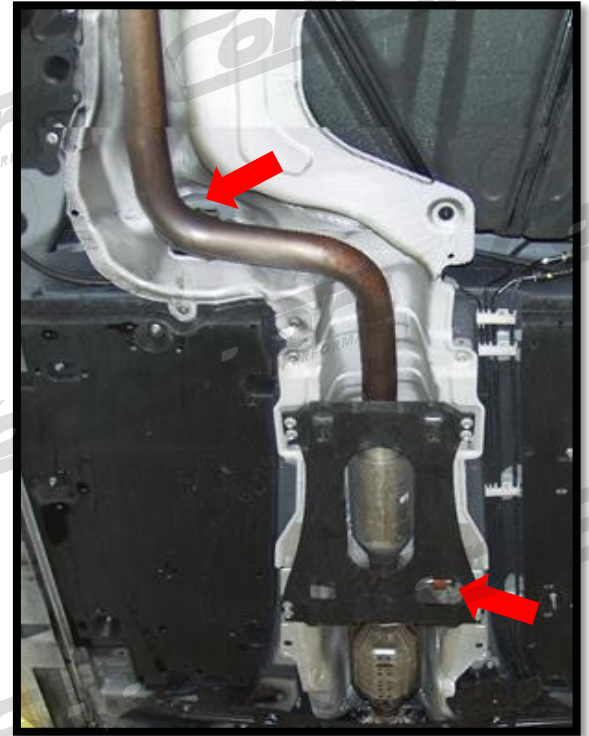

Figure 2d
- d) Remove the midpipe section by pulling it free from the rubber hangers (red arrows in Figure 2d).